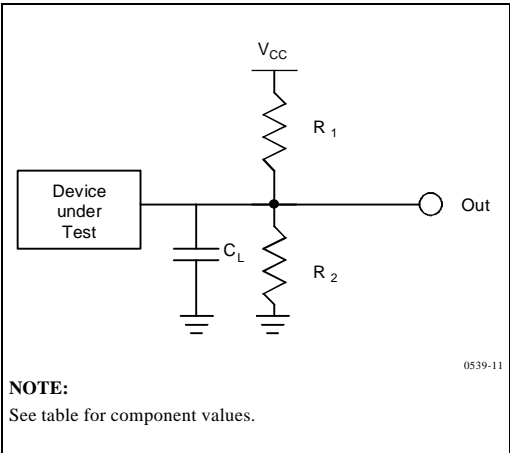

Figure 11. Test Configuration
5. See Test Configurations (Figure 11), 3.3V Standard Test component values.
6. See Test Configurations (Figure 11), 5V High-Speed Test component values.
7. See Test Configurations (Figure 11), 5V Standard Test component values.